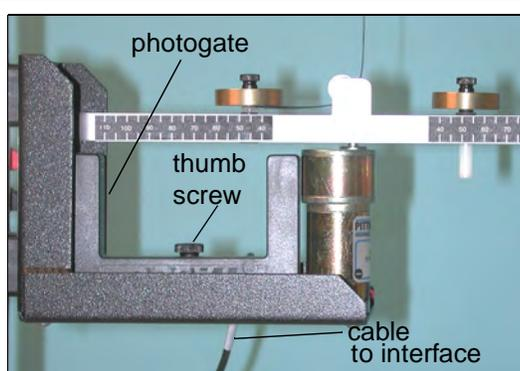

Figure 4: Photogate on base of Centripetal Apparatus
- Use a thumbscrew to mount a Photogate Head (ME-9498A) to the bottom base of the Centripetal Force Accessory (See Figure 4).